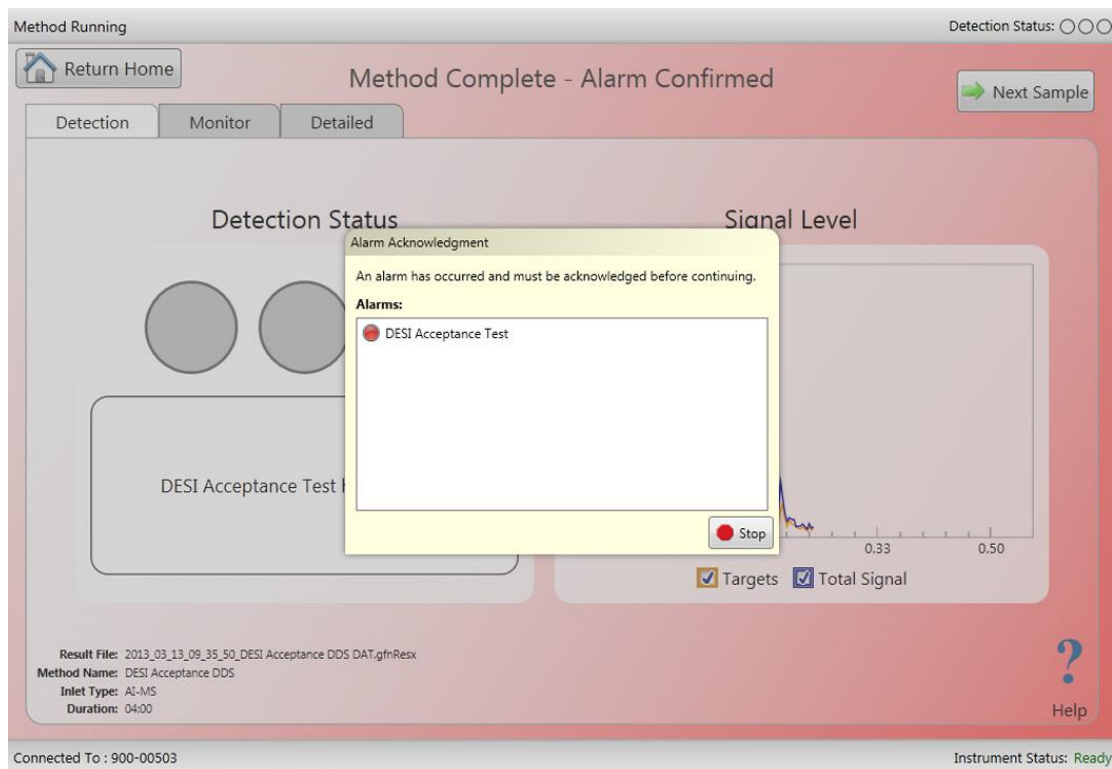
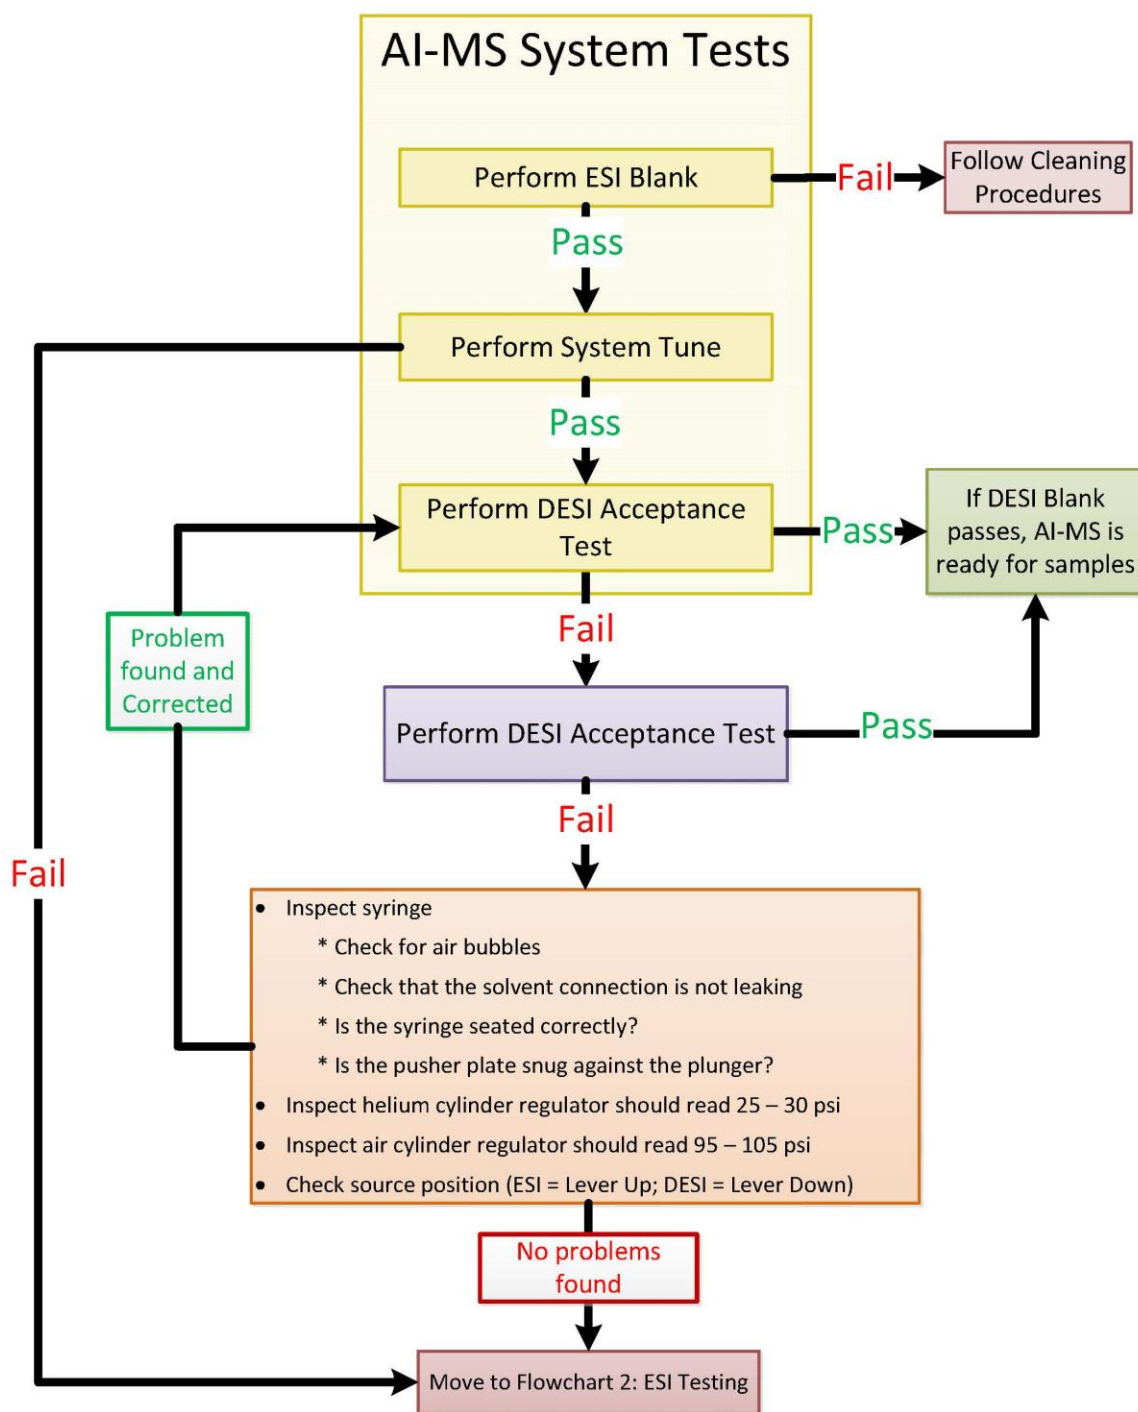

Figure A4 – DESI acceptance test passed
Figure A5 – Troubleshooting flowchart 1
3. Introduce the notecard under the DESI source once the instrument has instructed for samples to be introduced. If an ion at  $m/z$  183 is witnessed, the DESI acceptance test has passed. This will be confirmed by a triggered alarm in Level 1 (i.e. screen will turn RED) (Figure A4). If the DESI acceptance test does not pass (no alarm), following the troubleshooting flowcharts (Figures A5, A6, and A7)